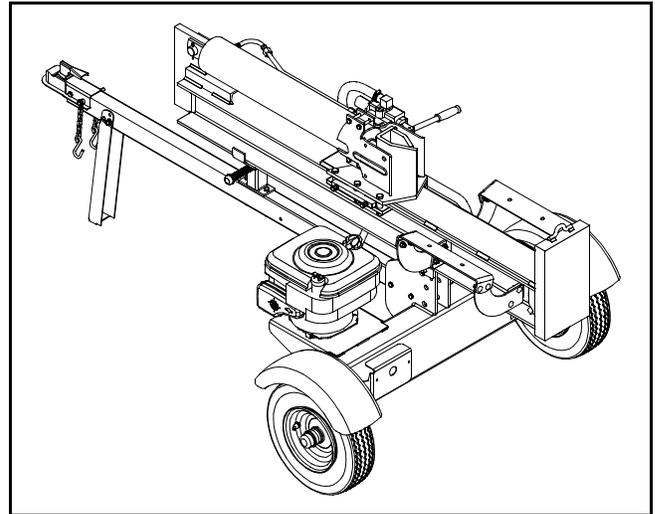

Figure 14
- To lock the beam in the horizontal position, pull out on the horizontal beam lock and pivot it to secure the beam. See Figure 14.